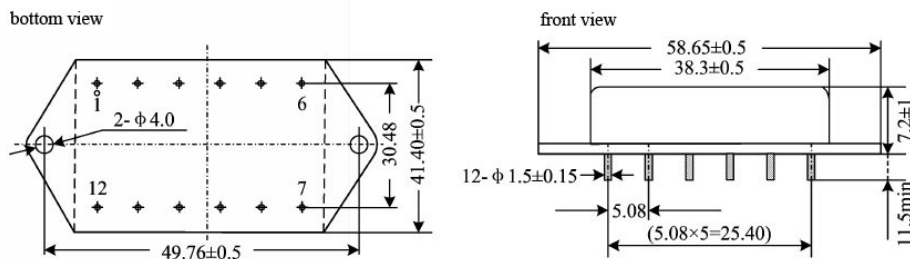

Fig. 7 Outside view and dimensions of package
9. Package specification (unit: mm)(Fig. 7, Table 4)